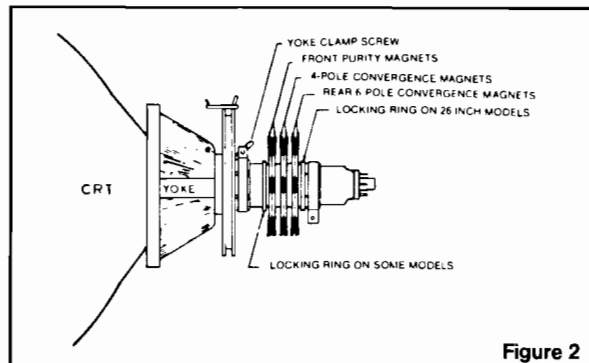

Figure 2
1.1 Loosen yoke retaining clamp (Fig. 2), remove adhesive material fixing wedges to CRT. Remove wedges completely and clean off dried adhesive from picture tube and wedges.
NOTE: Static convergence is achieved by four magnets located on the neck, nearest the base of the picture tube, Fig. 2. The middle pair of magnetic rings are adjusted to converge the blue and red crosshatch lines. The rear pair of convergence rings (closest to the base of the picture tube) are adjusted to converge the magenta (blue/red) to the green crosshatch lines. Dynamic convergence is achieved by tilting the deflection yoke up-down and left-right.